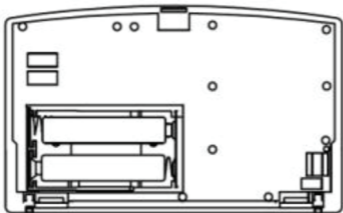

Fig.4
3. Insert the 2 x AA batteries provided (Fig.4) and replace the front cover of the thermostat.